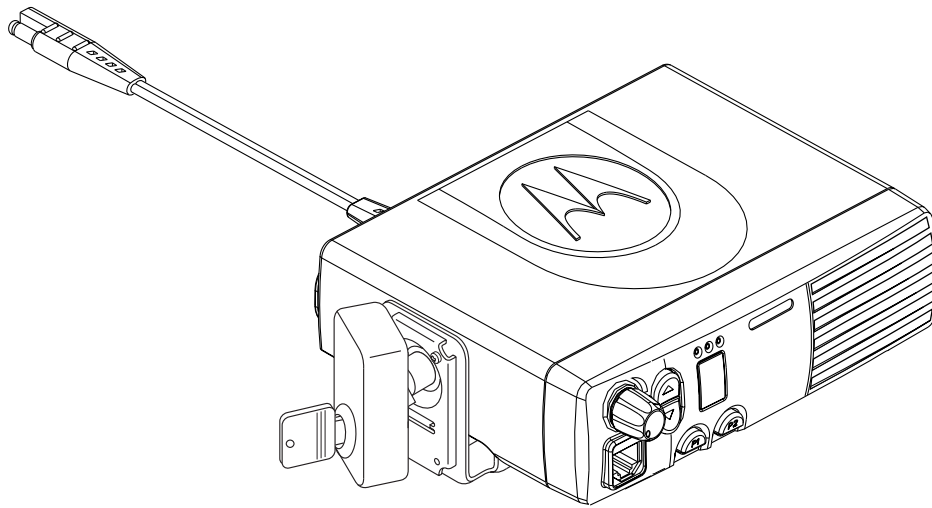

Figure 3-3. Locking Mounting Bracket (RLN4779)
6. If using a Locking Trunnion, lock the radio into the mounting bracket by closing the locking bracket and locking the cage using the key provided (Figure 3-3.)